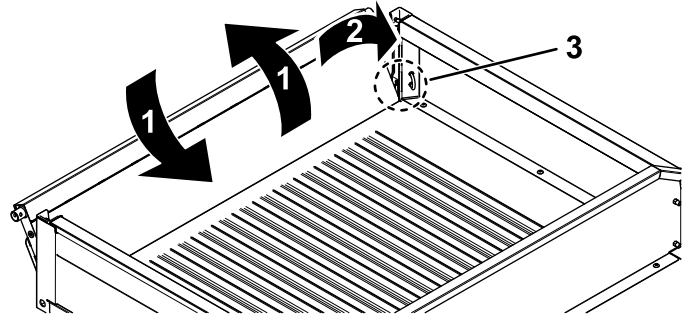

Figure 52
2. Rotate the tailgate to approximately the 45° position (Figure 52).
3. Use a short, shaking motion to rotate the tailgate back and forth several times (Figure 52).